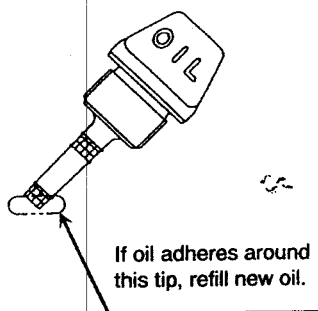
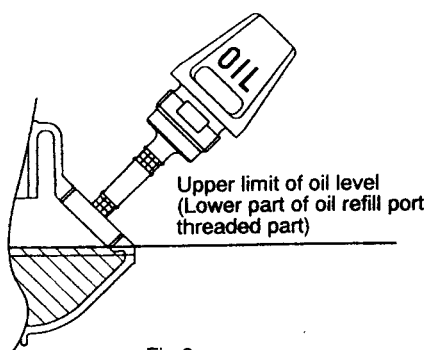

Fig.1
Fig.2
- While keeping the engine level, remove the oil gauge, and confirm that the oil is filled within the upper and lower limit marks. When the oil is short in such a way that the oil gauge touches the oil only by its tip, in particular with the oil gauge remaining inserted in the crankcase without screwing-in (Fig. 1), refill new oil near the port (Fig. 2).
- (1) Keep the engine level, and detach the oil gauge.
- (2) Fill oil up to the edge of the oil refill port. (Refer to Fig.2 of the preceding page).